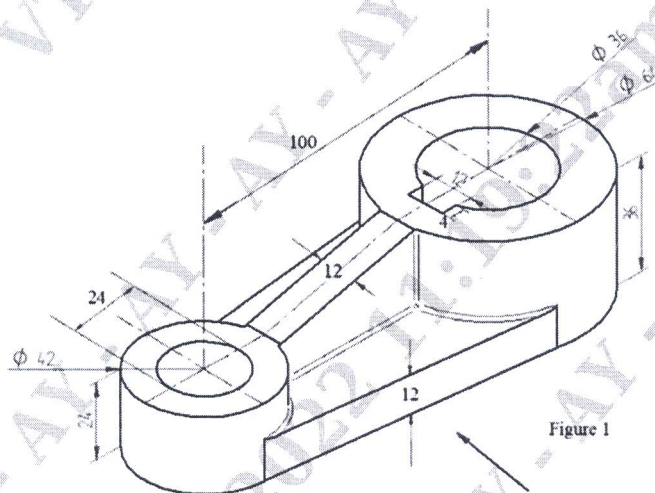

Figure 1
1. Draw the (i) the sectional view from the front and (ii) the view from the left of a shaft support shown in the figure 1